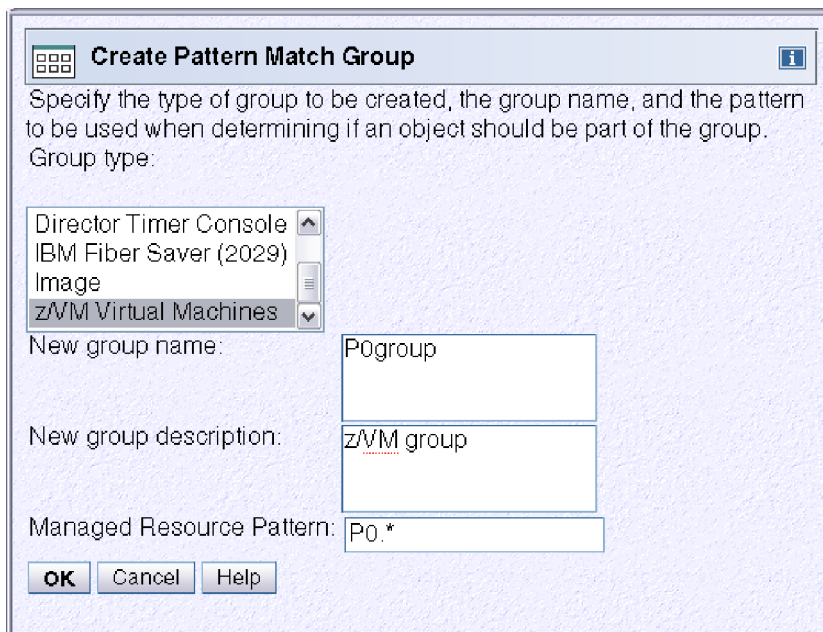

Figure 51. Create pattern match group window for virtual machines
2. Specify *P0.** in the **Managed Resource Pattern** field on the Create Pattern Match Group window as shown in Figure 51.